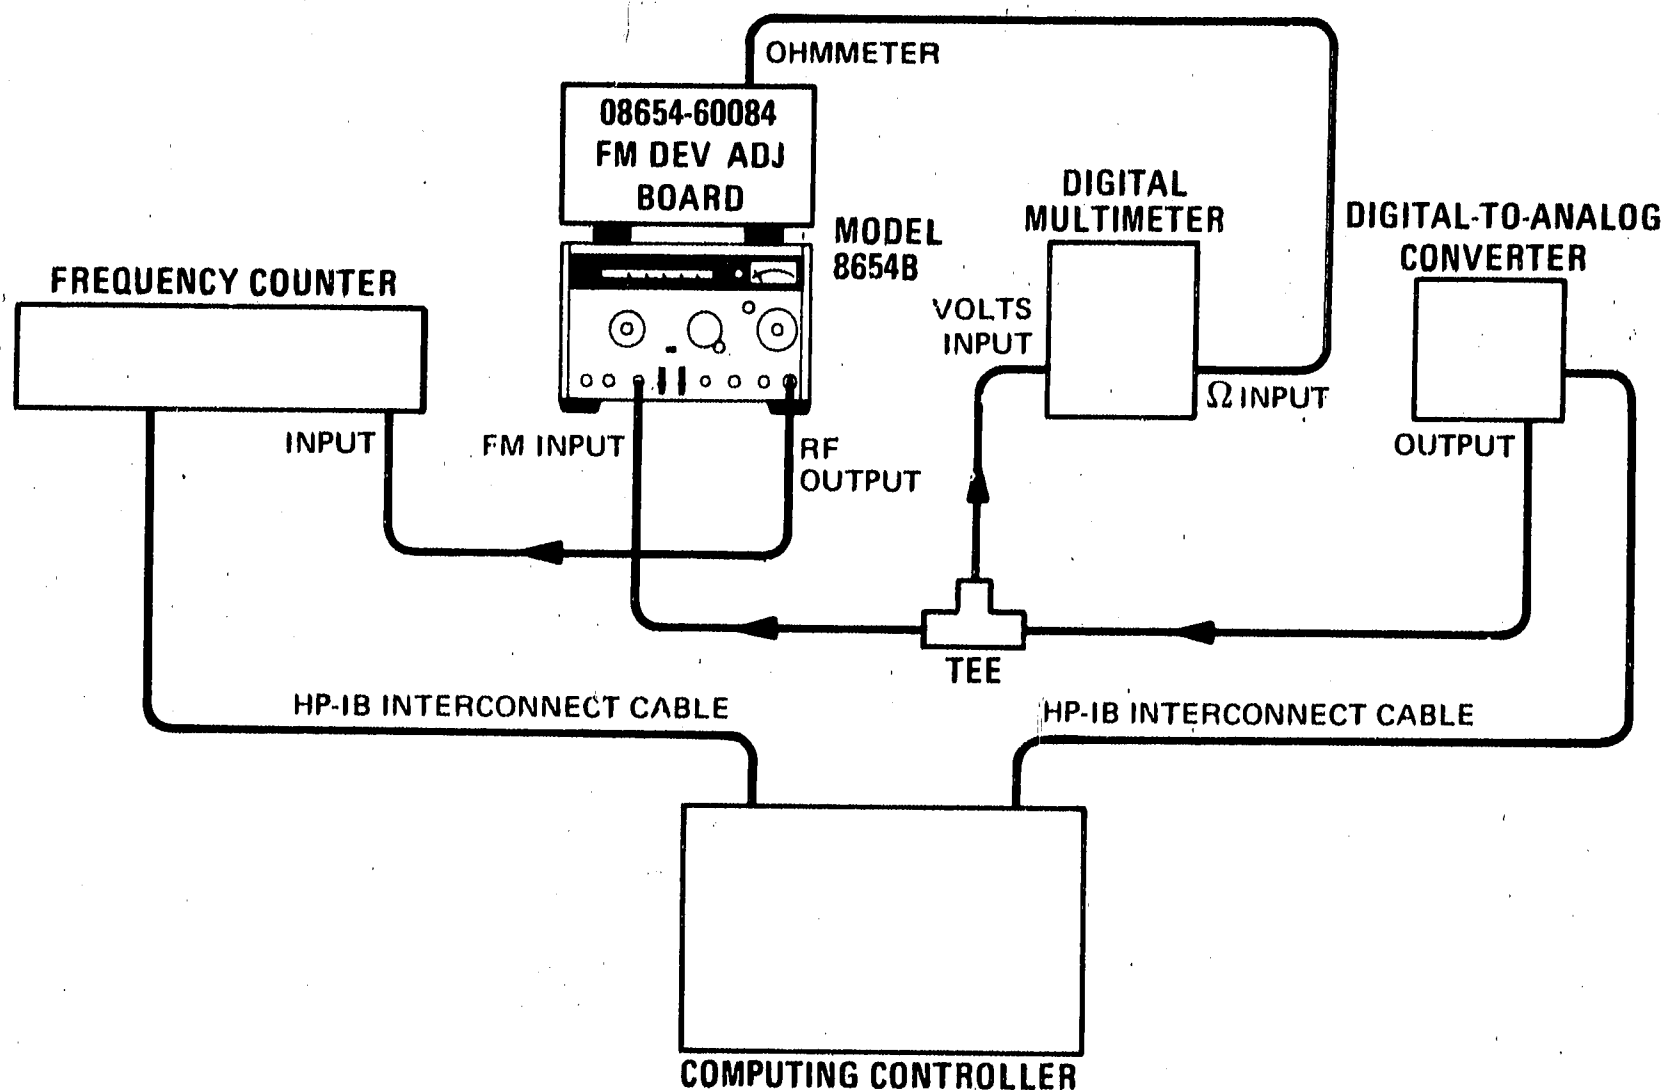

Figure 5-10. FM Deviation Adjustment (Alternate) Setup
3. Interconnect instruments as shown in Figure 5-10.